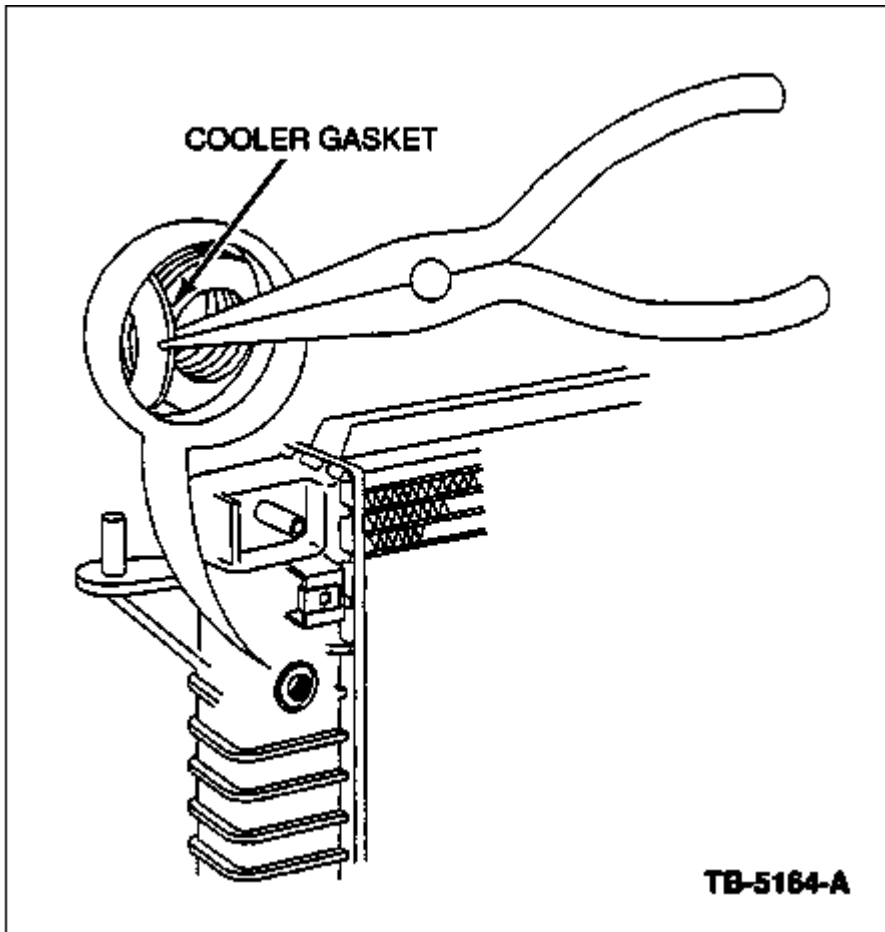

Figure 4 - Article 97-17-16
8. Remove the gasket (Figure 4).